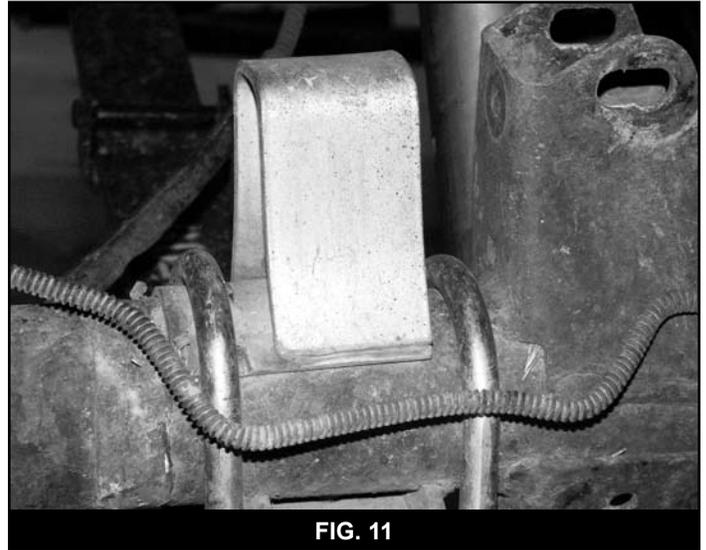

FIG. 11
19. Clean the spring mounting surface on the axle and lower the axle to the spring. Be sure that the thick end of the shim is toward the front of the vehicle. Position the new bump stop on the axle tube and slide the new u-bolt over the tab on the bump stop. Fasten the u-bolts with 1/2" high nuts and 1/2" SAE washers. Snug hardware. Final u-bolt torque will be down with the vehicle weight on the springs. (Fig 11)